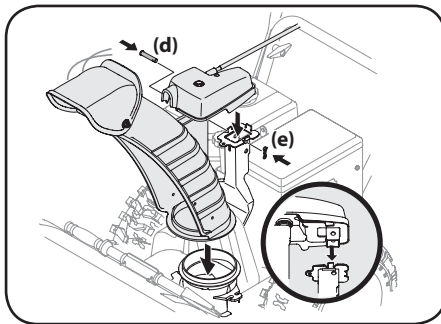

Figure 2-25
3. Place chute onto chute base and ensure chute control rod is positioned under handle panel. Secure chute control assembly to chute support bracket with clevis pin (d) and bow-tie cotter pin (e) removed in Step 1. See Figure 2-25.